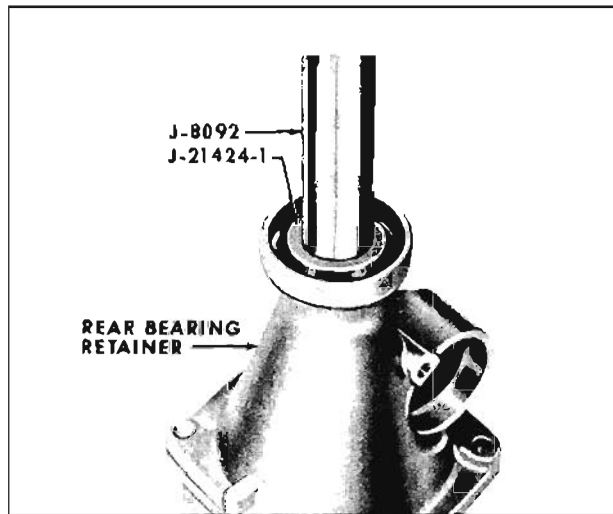

Fig. 6-451B Installing Rear Bearing Retainer Bushing
2. Using Drive Handle J-8092 and Installer J-21424-1, install rear bearing retainer bushing. (Fig. 6-451B)